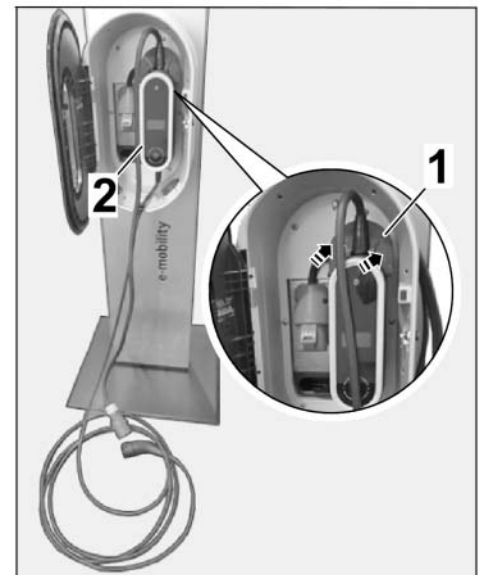

Figure 4
1.2.4 Press release rocker ⇒ *Figure 4-1-* down ⇒ *Figure 4-a-* and remove control unit (Porsche Universal Charger) ⇒ *Figure 4-2-* from the holder.